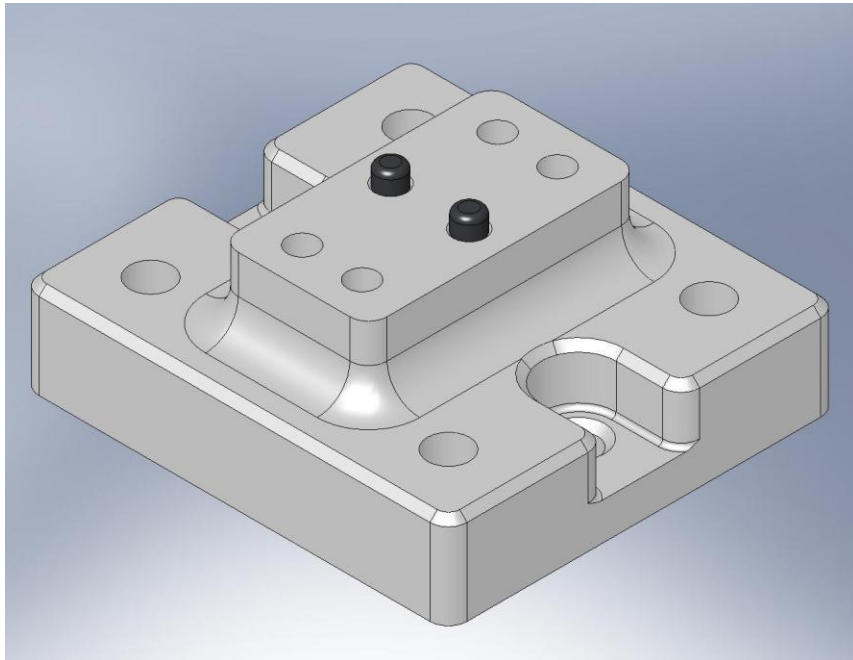

Figure 2.12. Dowel pins pressed into top of Locker Base.
- Press (2) 3/8"x1.0" dowel pins (McMaster-Carr #90145A624) into each of (4) **Locker Bases** (D071140), as shown in Figure 2.12. Pins should stand .25" proud of the top surface.